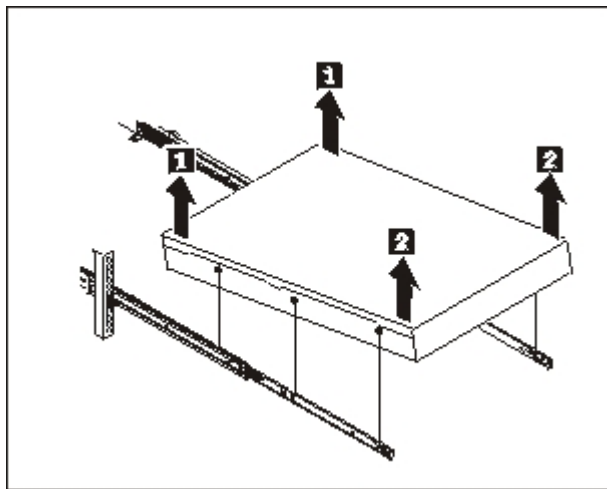

Figure 21. Lifting the appliance off the slide rails
2. Lift the appliance off of the slide rails, as shown in Figure 21.